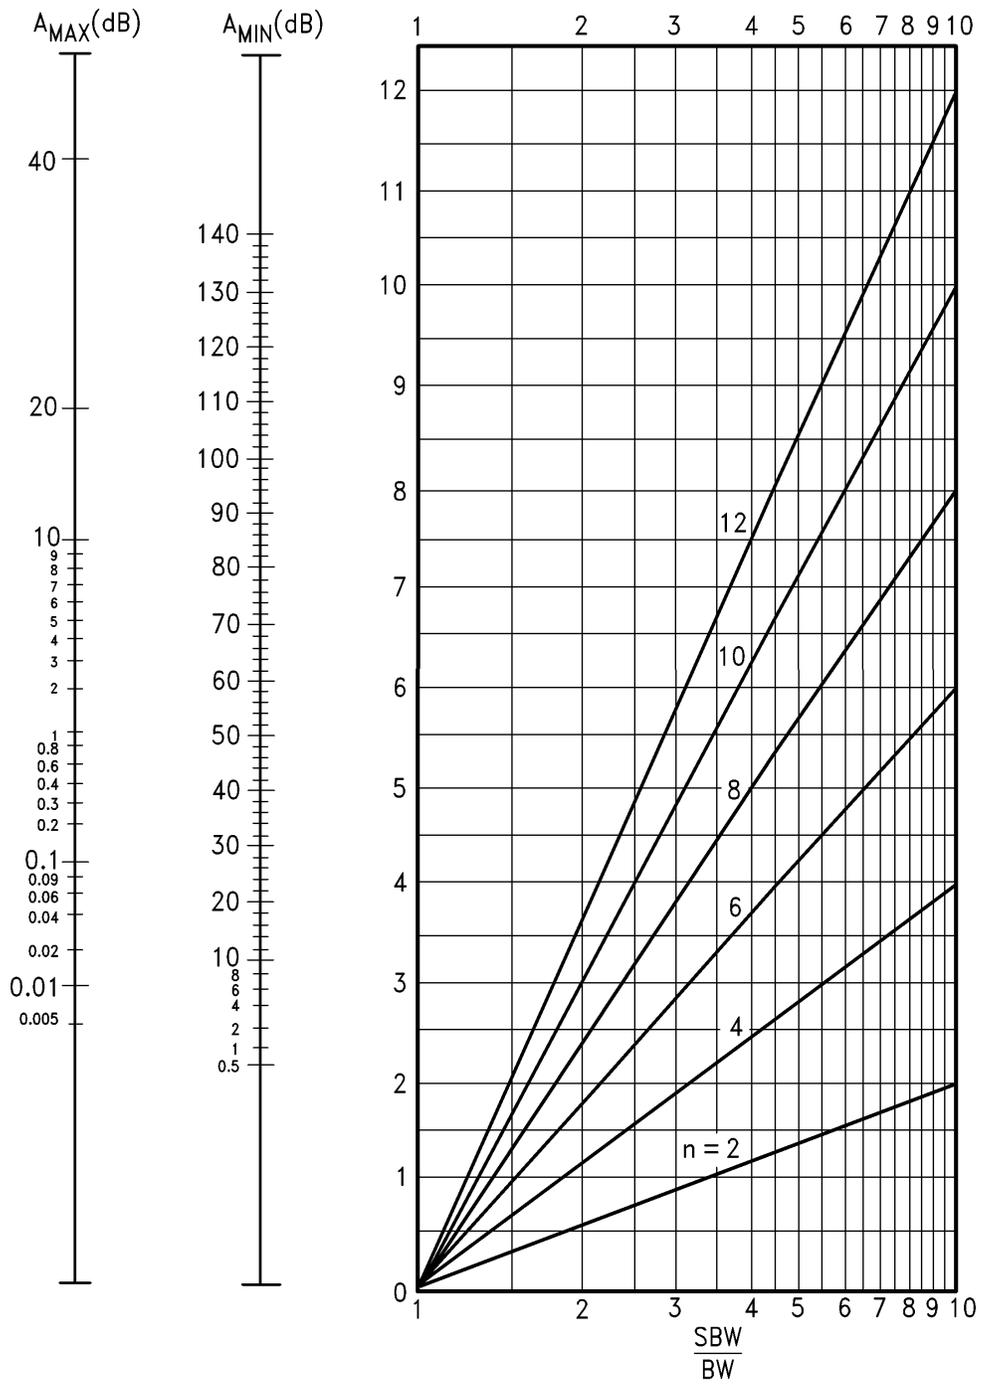

FIGURE 8. Butterworth Bandpass Filter Design Nomograph
3) Determine the filter order necessary to meet the response requirements defined above. This may be done with the aid of the nomographs in *Figures 8 and 9* for Butterworth and Chebyshev filters. To use the nomographs, draw a line through the desired values on the A_{MAX}/A_{MIN} scales to the left side of the graph. Draw a horizontal line to the right of this point and mark its intersection with the vertical line corresponding to the required ratio SBW/BW. The required filter order will be equal to the number of the curve falling on or just above the intersection of the two lines. This is illustrated in *Figure 10* for a Chebyshev filter with 1 dB ripple, 30 dB minimum attenuation in the stopband, and $SBW/BW = 3$. From the *Figure*, the required filter order is 6.